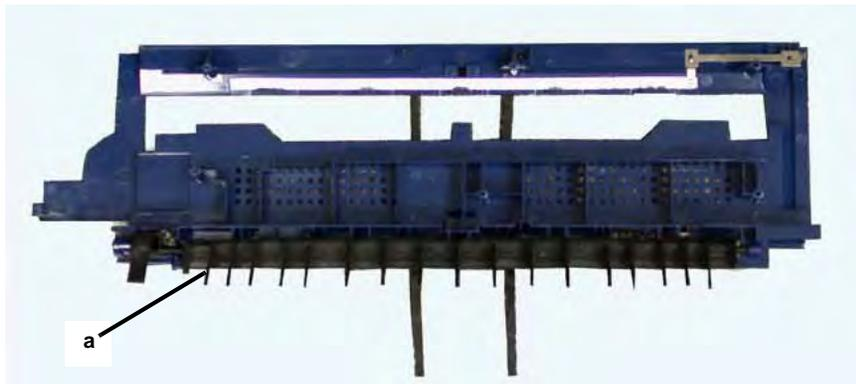

Figure 2 Exit Gate
4. Exit 2 Guide Assembly (Figure 2).